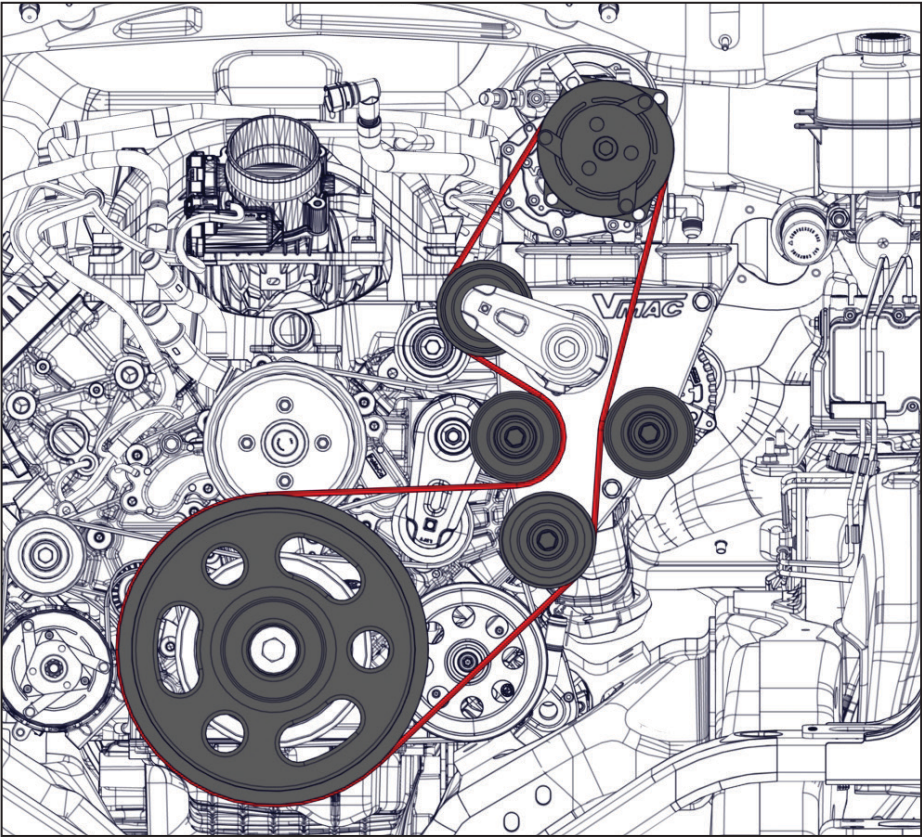

Figure 46 — VMAC belt routing
□ Install and tension the VMAC drive belt (Figure 46).